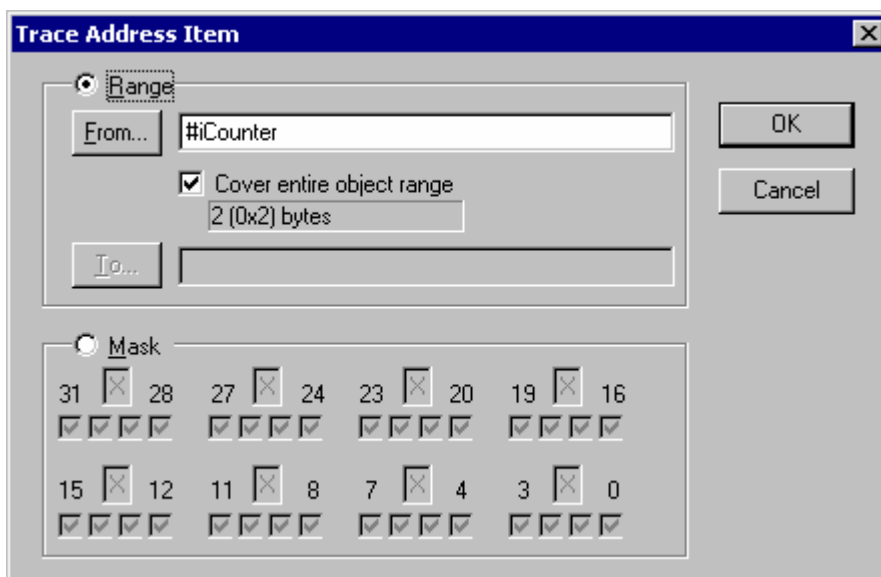

Figure 42. Event Q Address Item dialog
- Finally, define the event Q. Set `iCounter` address and check 'Cover entire object range' option in the Address Item dialog (Figure 42).